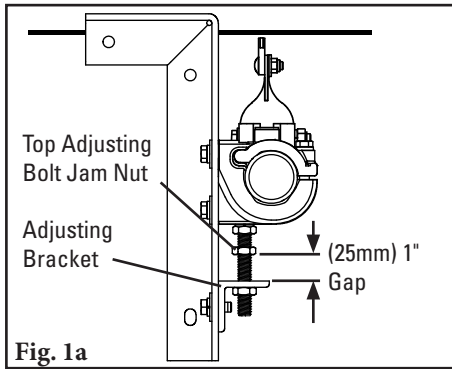

Fig. 1a
1. **Install mounting brackets.** Determine the correct clamp block (left or right) and bracket needed for each side of the conveyor. The top strap should be offset away from the belt (you should be able to see the notch for the top strap from the outside of the conveyor). (Fig. 1a).
- a. Loosen the top adjusting bolt jam nuts 25mm (1") from the top of the adjusting brackets (Fig. 1a).